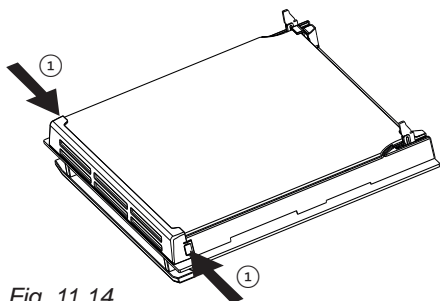

Fig. 11.14
- Touch the glass retainer tabs in on both sides of the door and remove the glass retainer (fig. 11.14, 11.15).